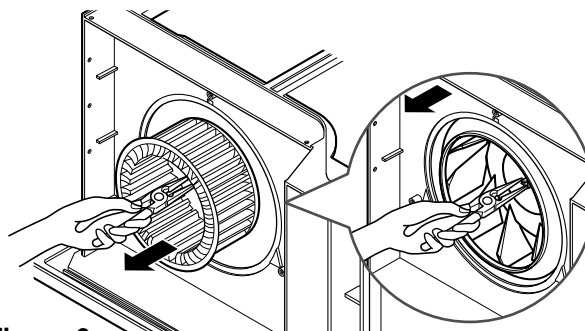

Figure 6
6. Remove the blower with plier or your hand without touching blades. (See figure 6)